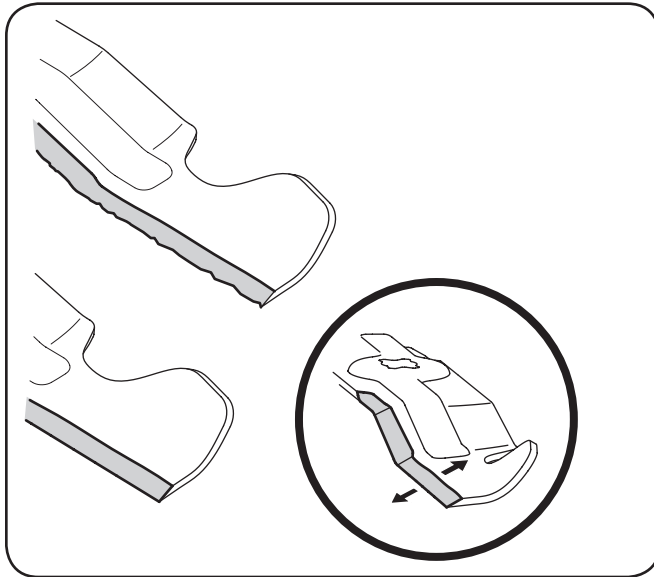

Figure 7-7
- To properly sharpen the cutting blades, remove equal amounts of metal from both ends of the blades along the cutting edges, parallel to the trailing edge, at a 25°- to 30° angle. Always grind each cutting blade edge equally to maintain proper blade balance. See Figure 7-7.